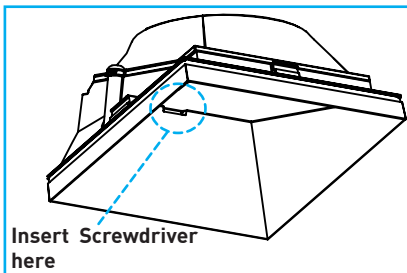

Fig.63
1. Grasp baffle using soft gloves or with clean soft cloth and remove by pulling down or inserting small flat head screwdriver to wallwash baffles and carefully prying down as shown in *Fig.63*.
- A. Remove baffle by pulling down or inserting small flat head screwdriver to wallwash baffles and carefully prying down as shown in *Fig.63*. Remove optic (see E.1 on page 12).